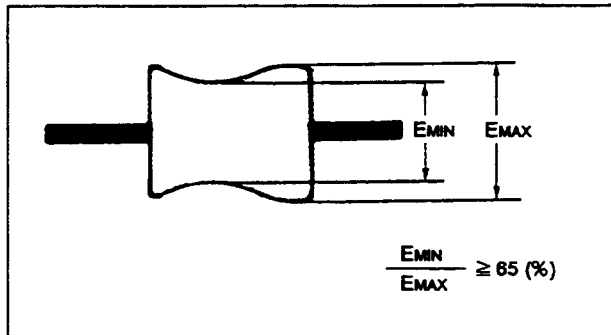

Fig. 44
- 2) Then, confirm that the minimum amplitude value (E_{MIN}) is 65 % of the maximum value (E_{MAX}) or larger (Fig. 44).